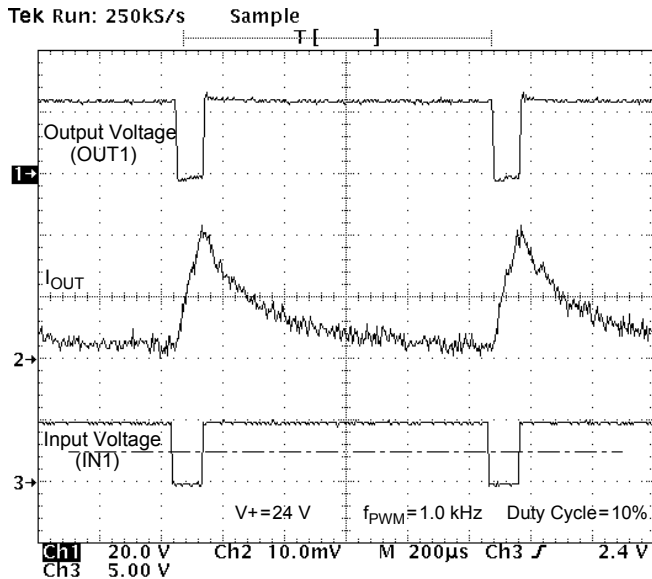

Figure 11. Output Voltage and Current vs. Input Voltage at $V^+ = 24 \text{ V}$, PMW Frequency of 1.0 kHz, and Duty Cycle of 10%
23. The outputs can be PWM-controlled from an external source. This is typically done by holding one input high while applying a PWM pulse train to the other input. The maximum PWM frequency obtainable is a compromise between switching losses and switching frequency. See Typical Switching Waveforms, Figures 11 through 18, pp. 15–16.